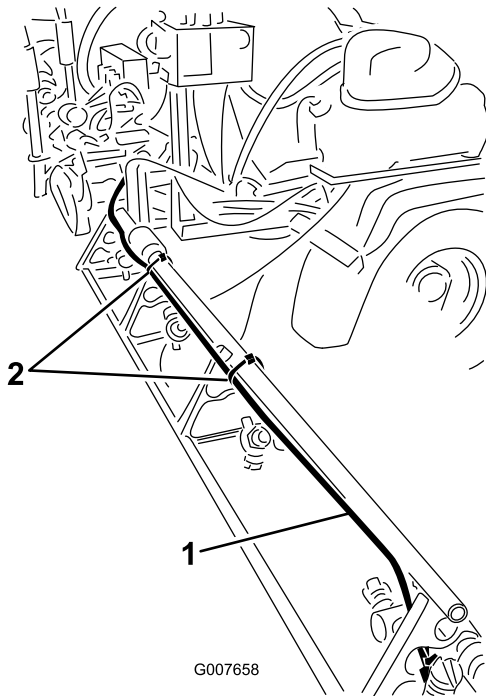

Figure 8
- A. On the right boom, install the foam hose along the rear side of the upper support pole (Figure 8).